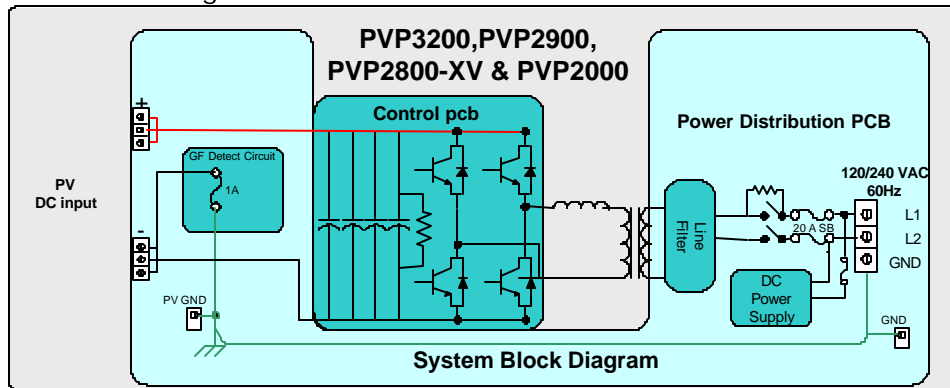

Figure 6: System Block Diagram showing single point ground point
- ◆ Figure 6 includes schematic representations of the PVP3200, PVP2900, PVP2800-XV and PVP2000 single point grounding. The front cover is grounded through the two cover mounting screws.